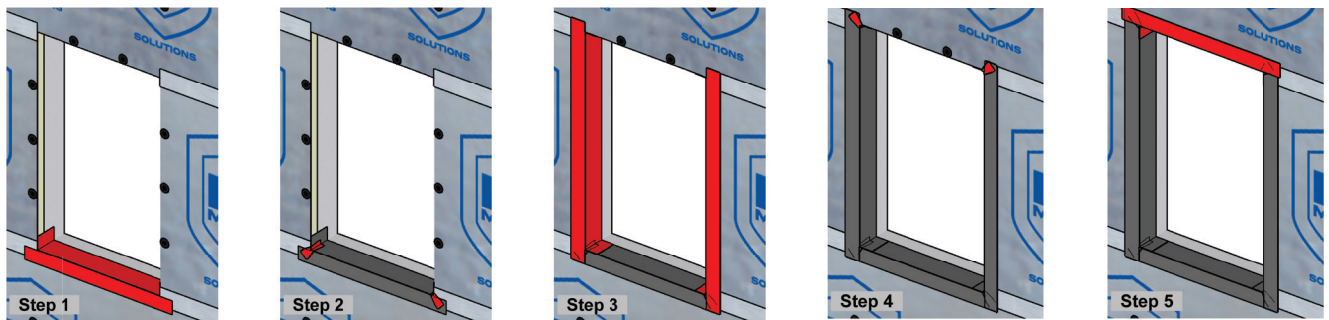
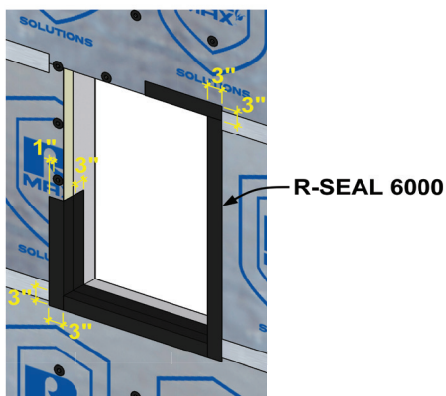
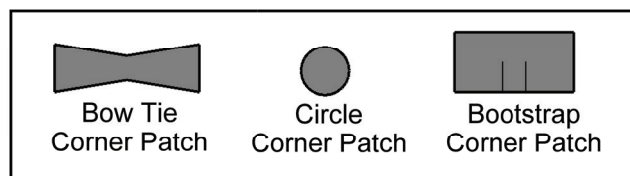

Figure 9
Figure 10
Figure 11
J. Rough Openings: Apply sill flashing first, then bottom corner patches. Next, apply flashing at the jambs, then upper corner patches. Finally, apply head flashing. Head flashing must extend at least 1" beyond jamb flashing on both sides. **Reference Figure 9.** For each plane to be flashed, extend flashing a minimum of 3" onto the surface of the last substrate and a minimum of 1" beyond any washer. **Reference Figure 10.** Corner patches are critical to ensure continuity in the corners at flashing transitions. They are typically pre-cut pieces of R-SEAL 6000 in the shape of a circle, bowtie or bootstrap. **Reference Figures 11.** Alternatively, use pre-formed end dams.